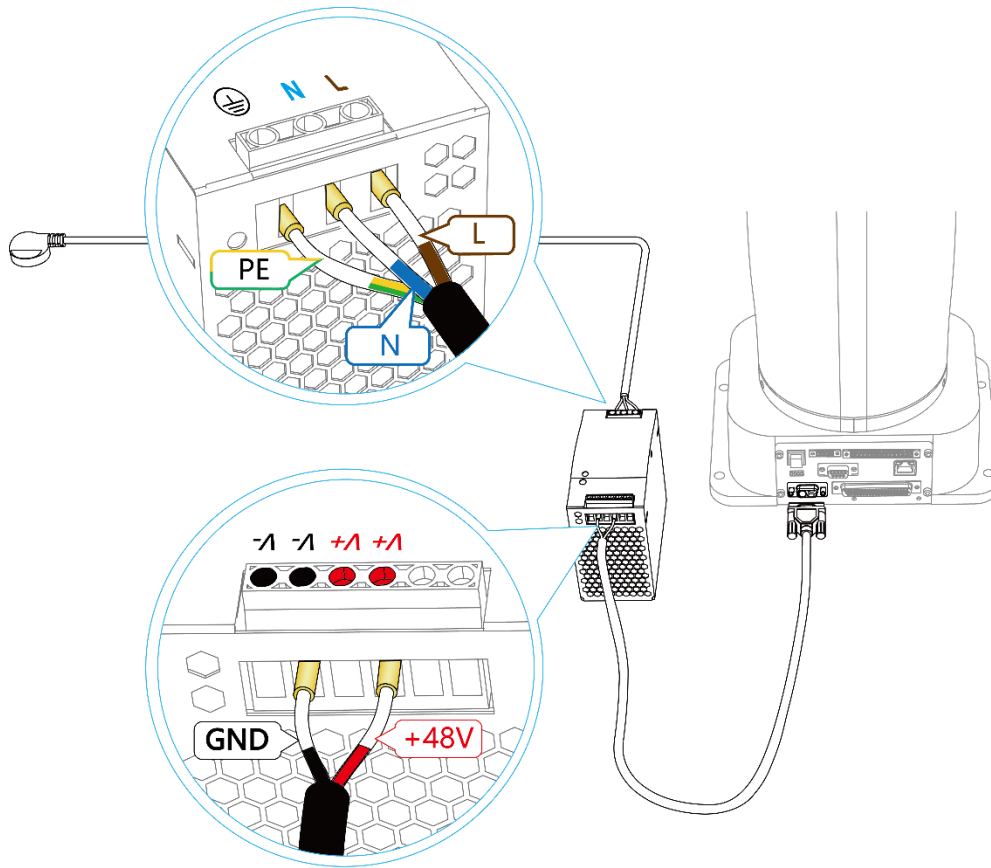

Figure 5.5 Connect power supply input cable to power adapter
- Step 1** Connect the yellow-green cable on one end of the AC power cable to the GND pin on the power adapter, the blue one to the N pin and the brown one to the L pin. Tighten them with a cross screwdriver, as shown in Figure 5.5. If you cannot connect, please loosen the cage clamp firstly with the cross screwdriver.
- Step 2** Connect the red cable on one end of the DC power cable to the V+ pin on the power adapter, the black one to the V- pin. Tighten them with a cross screwdriver, as shown in Figure 5.5. If you cannot connect, please loosen the cage clamp firstly with the cross screwdriver.